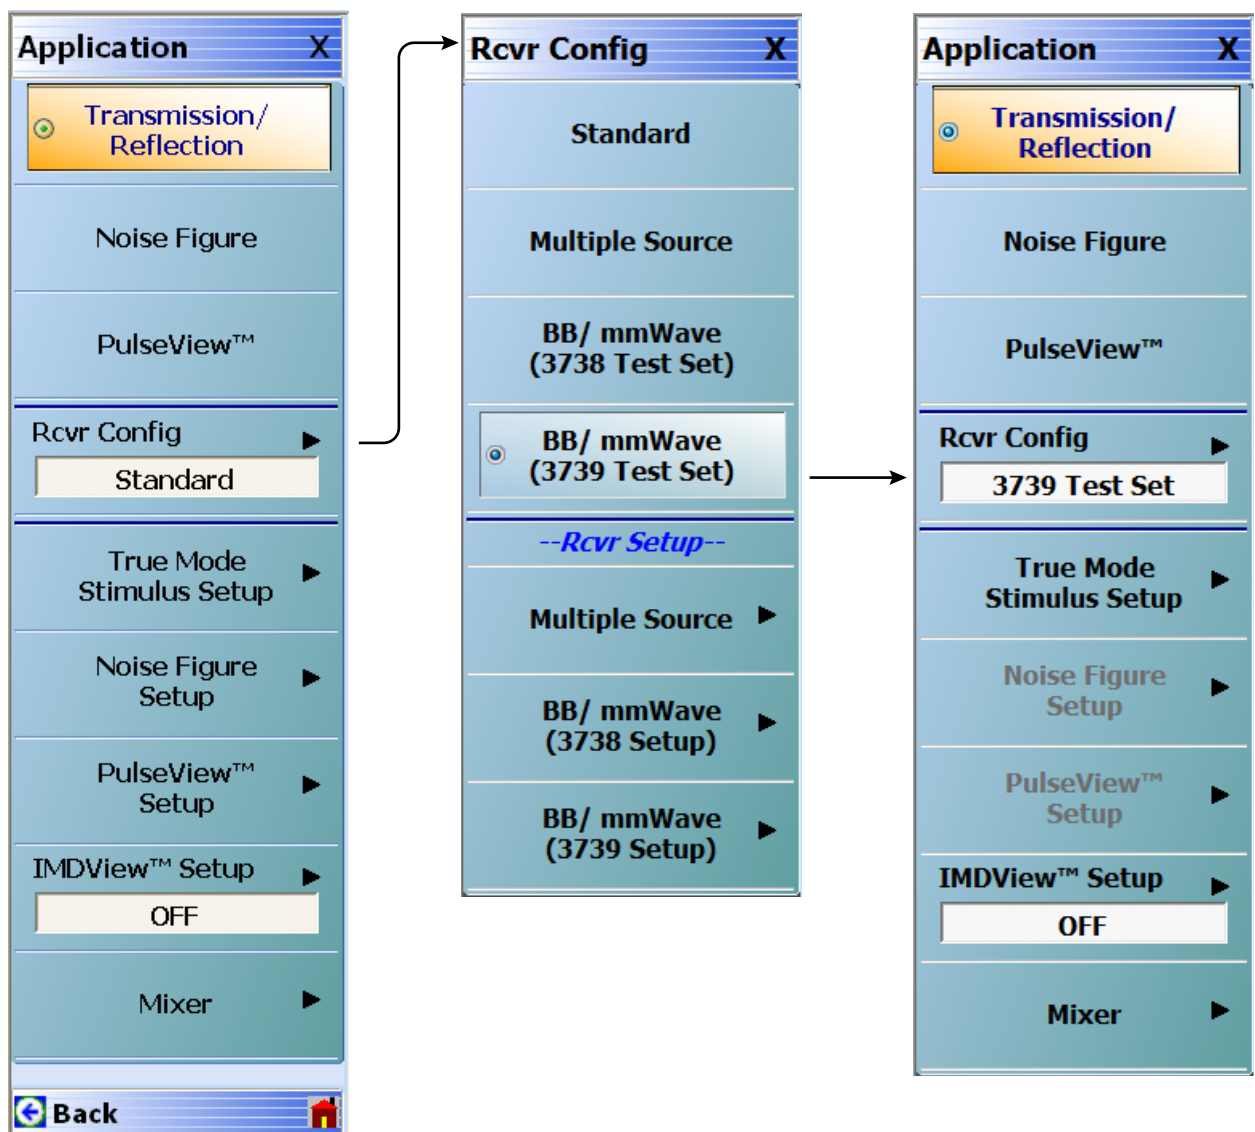

Figure 3-9. APPLICATION Menu – Receiver Configuration to 3739 Test Set
1. At the MAIN menu, select Application. The APPLICATION menu appears as shown in Figure 3-9.